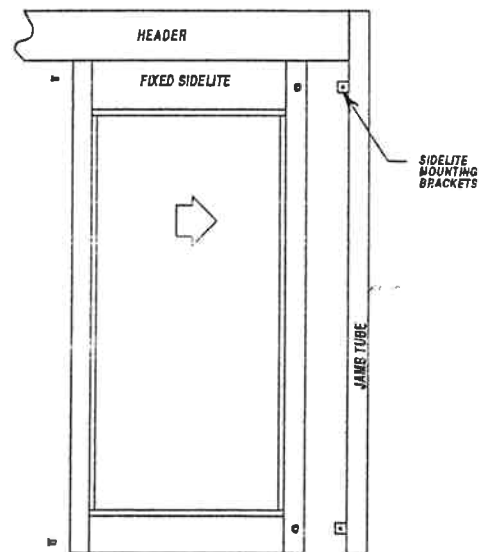

Figure 16
- 3 Position panel on to brackets and fasten (Ref. Fig. 16).